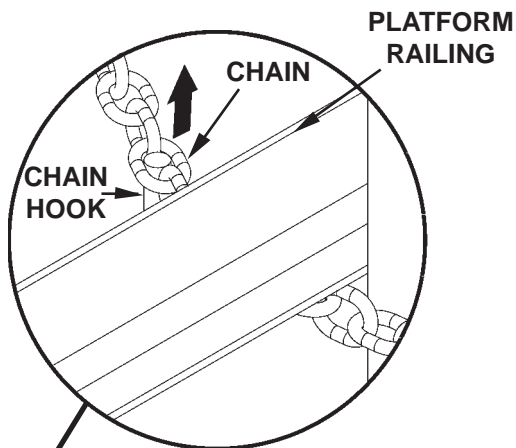
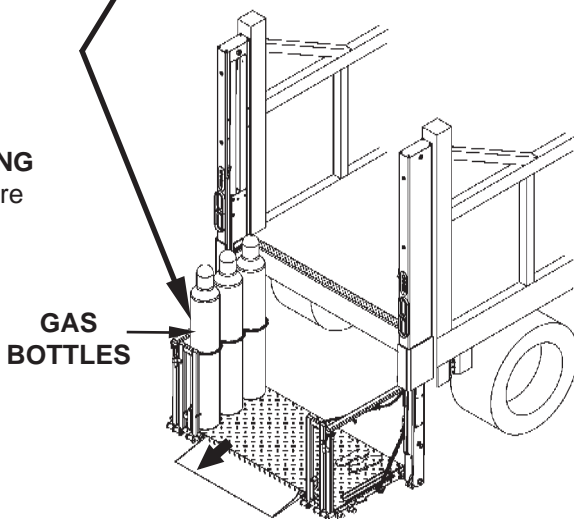

FIG. 19-1A
FIG. 19-1B
3. Unhook chain from platform railing (**FIG. 19-1A**). Carefully move gas bottles off platform (**FIG. 19-1B**) to a place where they will not become a hazard for people and other vehicles.